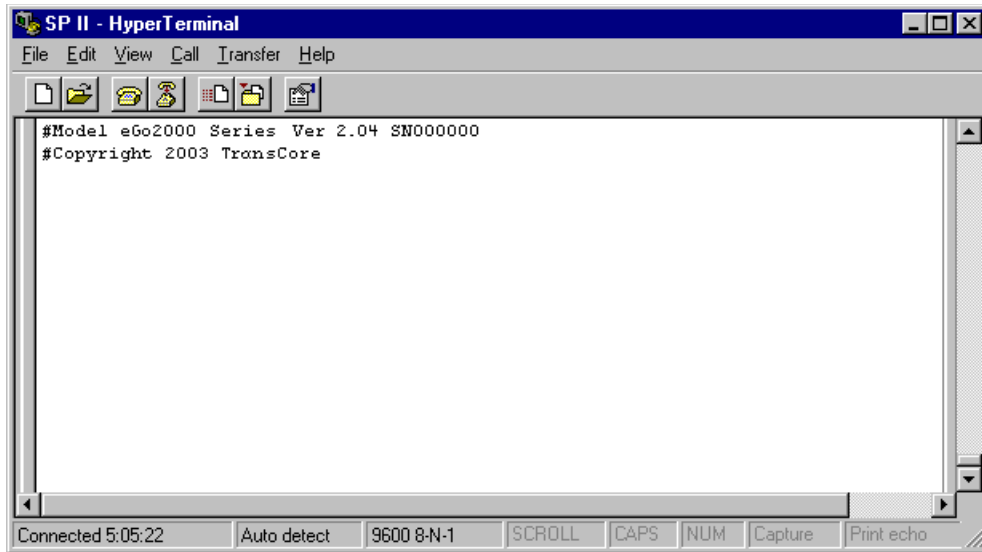

Figure 28 Sign-on Message
2. Cycle the power on the MPRX. Upon startup, the MPRX transmits a sign-on message, displayed on the terminal emulation screen as shown in Figure 28, or a boot ROM failure message.
The terminal emulation screen displays the sign-on message as shown in Figure 28.